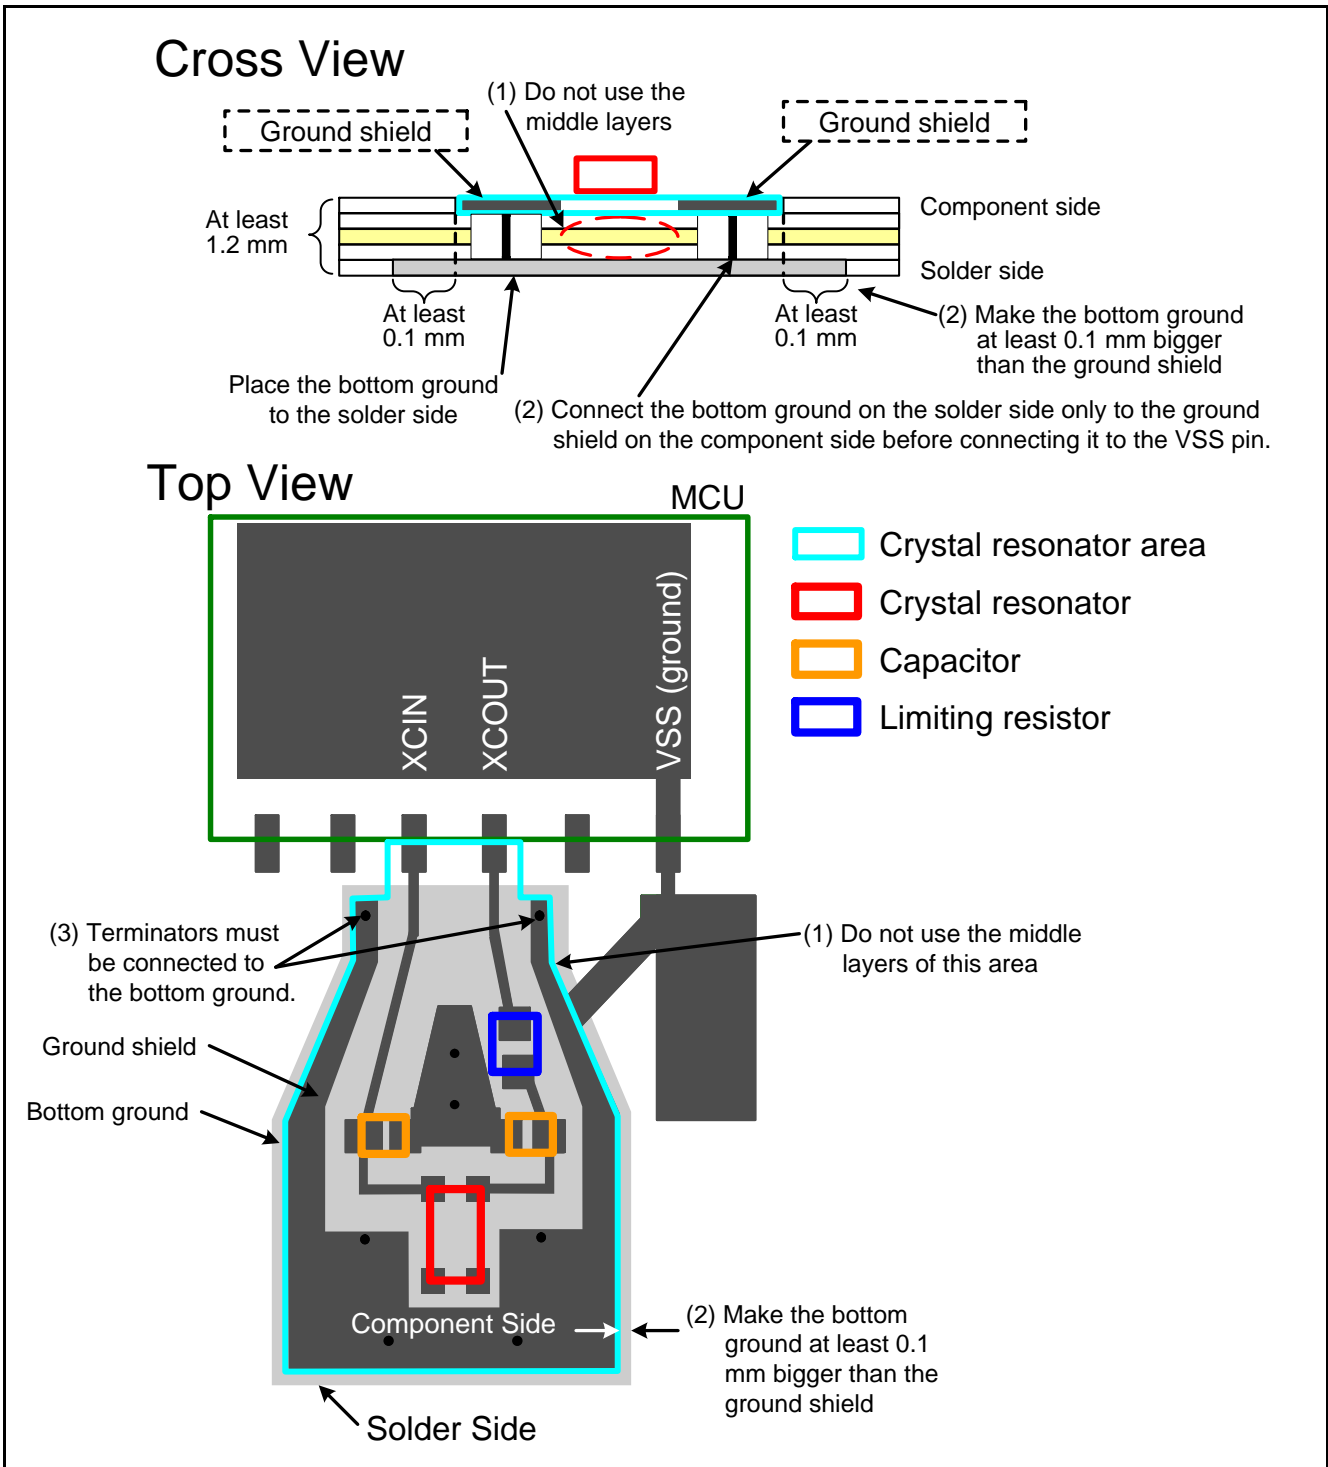

Figure 1.4 Trace Example When a Multilayered Board is at Least 1.2 mm Thick
For boards that are at least 1.2 mm thick, lay out a ground trace on the solder side (hereinafter referred to as bottom ground) of the crystal resonator area (see Figure 1.4).
(1) through (3) describe points when making a multilayered board that is at least 1.2 mm thick, and Figure 1.4 shows a trace example.